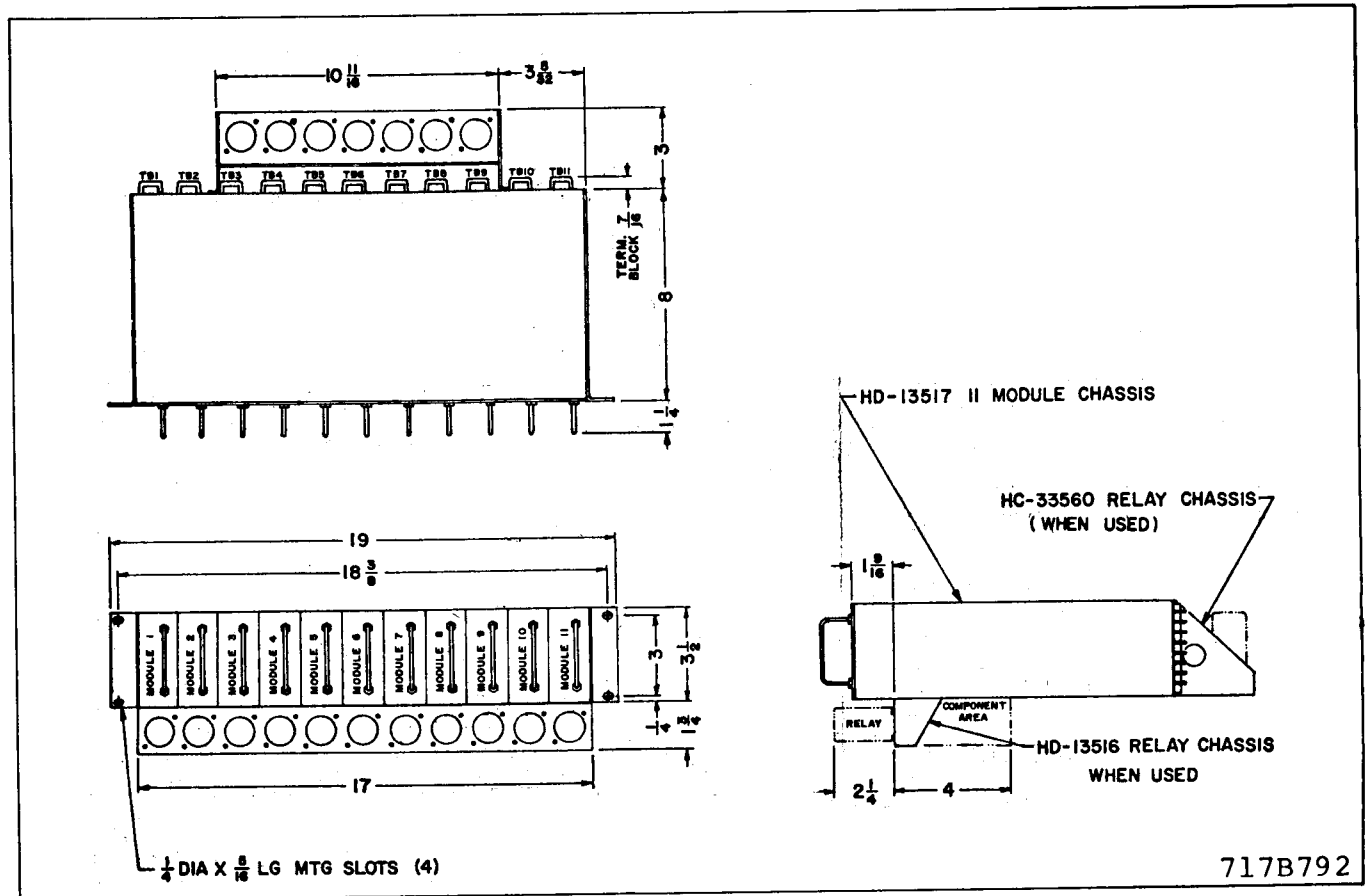

Fig. 4 - Outline and Drilling Plan of 11 Module Chassis
The output relays may be either telephone type relays or high speed Mercury-type relays to energize external type AR relays. On systems with telephone type relays, the relays are mounted on the same chassis as the modules and current jacks are used to monitor the relay coil current. FDR type AR relay system, the Mercury relays are mounted on a shortened rear bracket. See Fig. 4.
a) An eleven module chassis with a nominal overall size of $5\frac{1}{4}''$ h x $19''$ w x $9\frac{3}{4}''$ d, which mounts in standard relay rack. Outline and drilling dimensions are shown in Figure 4.